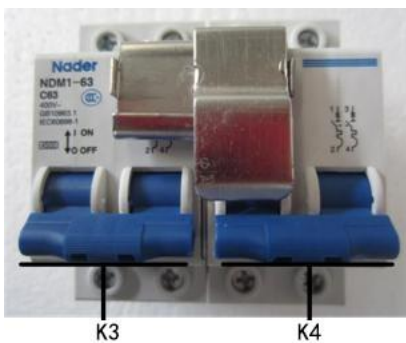

Figure5-3 Step 3
Step 3 Close the breaker of auxiliary power (K3), as shown in Figure5-3.